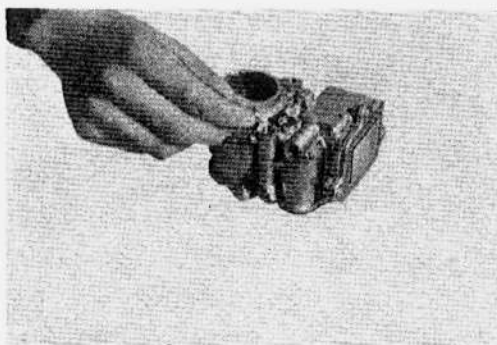

Figure 127
(15) The discharge ball check is also inside so remove by unscrewing it out (Fig. 127).